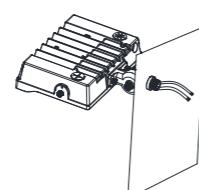

figure 1.5
Step 3: Loosen screws; Adjust fixture angles as per actual demands and tighten screws later; Angles of the fixture is adjustable (pass the bracket through mounting surface, fix it with screws, then connect the wires as per proper wiring requirements). (figure 1.5)